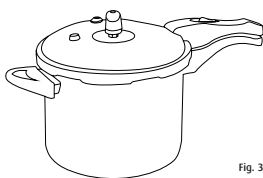

Fig. 3
- a. Less than 1/4 of the height of the pressure cooker for foods that increase their volume such as those with skin (chicken) and beans. (Fig. 3).